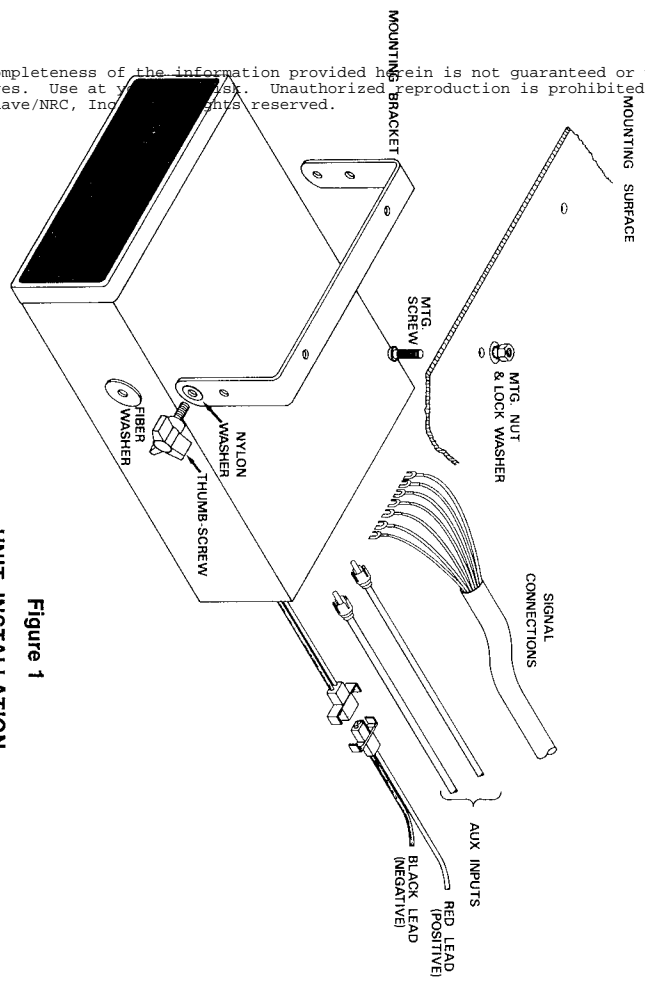

Figure 1
4. Connect all switches in series with the "Alarm In" terminal and ground (See Figure 1).
ALARM — In this mode, the unit will serve to protect an area by functioning as a burglar alarm. The alarm is set by closing all of the sensing switches in the alarm circuit and turning on the unit. See Figure 1 for a typical installation. If the circuit is broken by an opened switch, the alarm circuitry will latch and the alarm siren (yelps) will sound until the unit is turned off and the sensing switch reset.